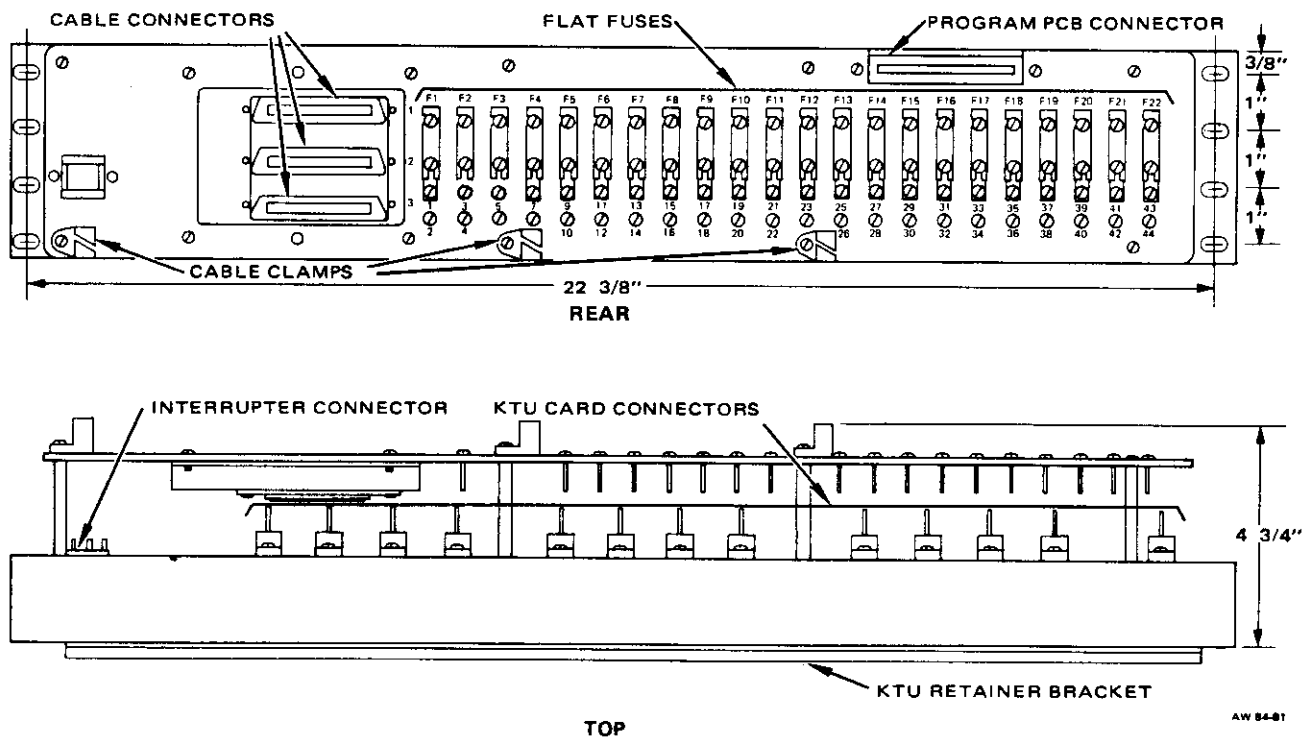

Figure 2: Terminal Panel Assembly
2.06 The terminal panel assembly makes up the back of the 584C card panel. It is equipped with three 25-pair male connectors, an 18-contact printed circuit board connector, screw terminals for power supply connections, and 22 non-indicating flat fuses. Arrangement of the terminal panel assembly is shown in Figure 2.